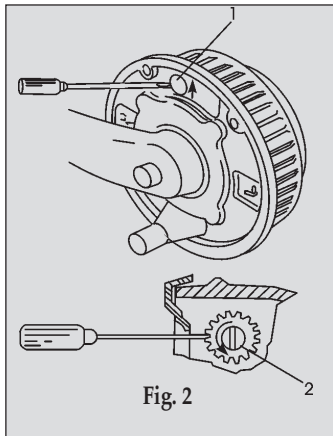

Fig. 2
- direction of the arrow embossed on the backplate until there is resistance in the wheel rotation (fig. 2).
- vi. Slacken off the starwheel adjuster until the road wheel turns freely in the forward direction (fig. 2).